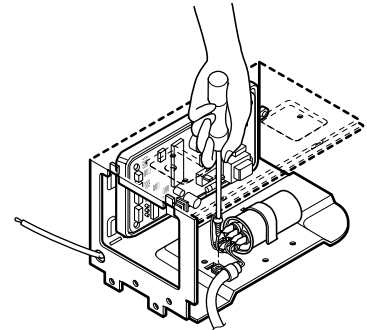

Figure 27
5. Remove a screw which fastens the clip cord. (See Figure 27)